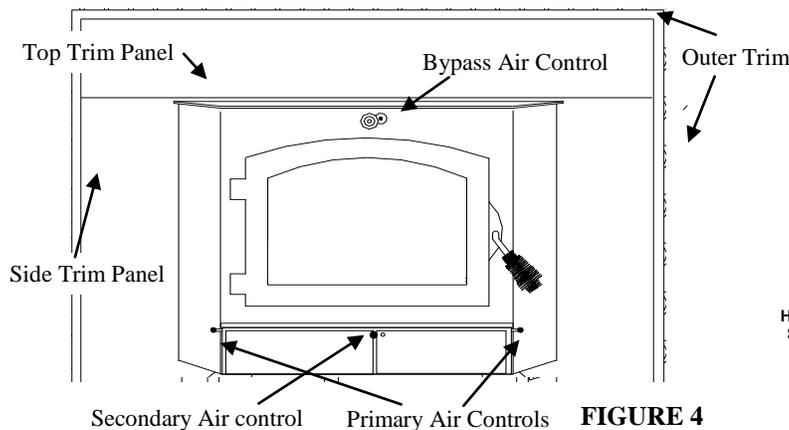

FIGURE 4
9. Obtain the brass trim kit and slip over the top and sides of trim panels. Top ends of brass may need to be trimmed to fit (See Figure 4).
**Damper Bypass Control:** The damper bypass control is located at the center top of stove. Push in to close it, pull out to open it. (See Figure 4).